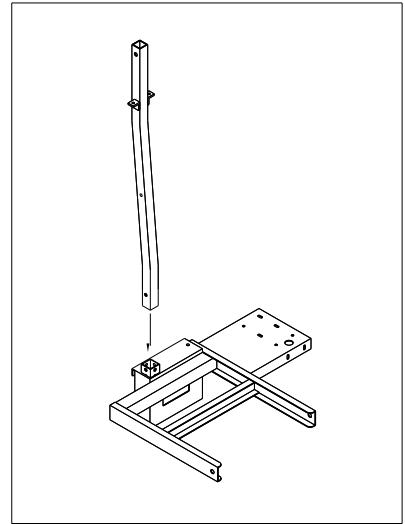

Fig. 3
3. Slip vertical support (7) into receiver tube on frame (1), with offset towards tractor (away from frame) as shown. Align slot in support brace (27) with hole about halfway up vertical support (7) and loosely secure with 3/8" x 2 1/2" hexbolt and whizlock nut. Adjust the height of the vertical support until the lower hole in the brace aligns with the hole in the top of the box on the frame (1). Loosely secure the upright with a 3/8" x 2 1/2" hexbolt and whizlock nut and the bottom of the brace with a 3/8" x 1" hexbolt and whizlock nut. **Fig. 3**